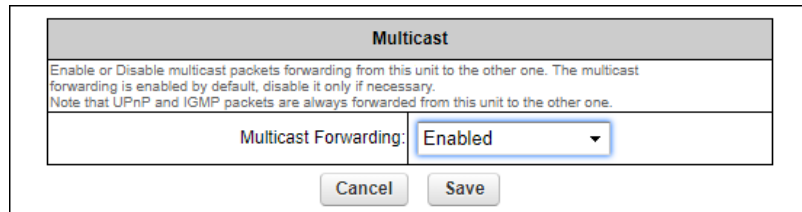

Figure 42. Multicast dialog (Bridge mode)
2. Click the **-multicast** link under **ADVANCED SETTINGS** in the left-hand settings menu (Figure 42 \(page 117\)).